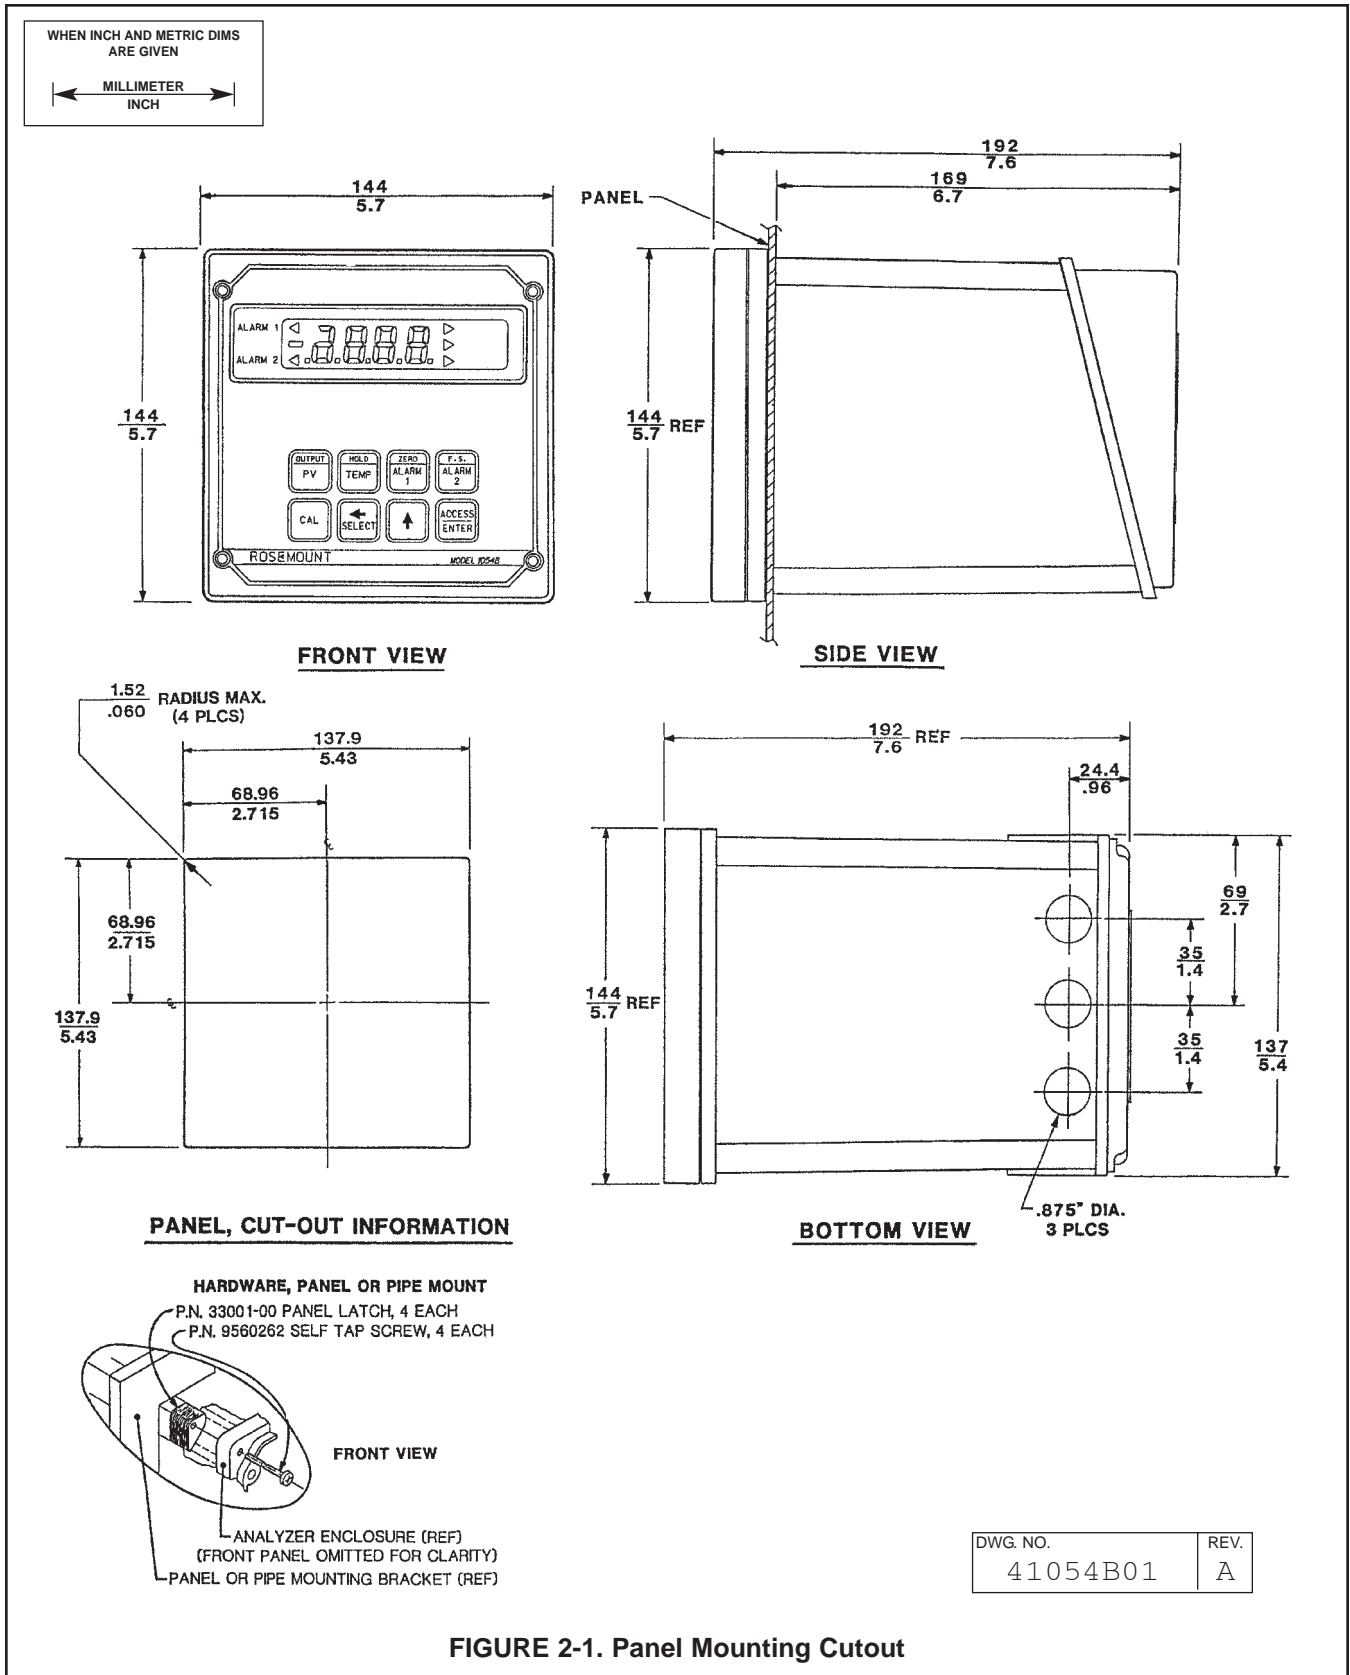

FIGURE 2-1. Panel Mounting Cutout
2.3.1 Panel Mounting (Standard). The Model 1054B is designed to fit into a DIN standard 137.9 mm X 137.9 mm (5.43 inch X 5.43 inch) panel cutout (Refer to Figure 2-1 and Figure 2-2).